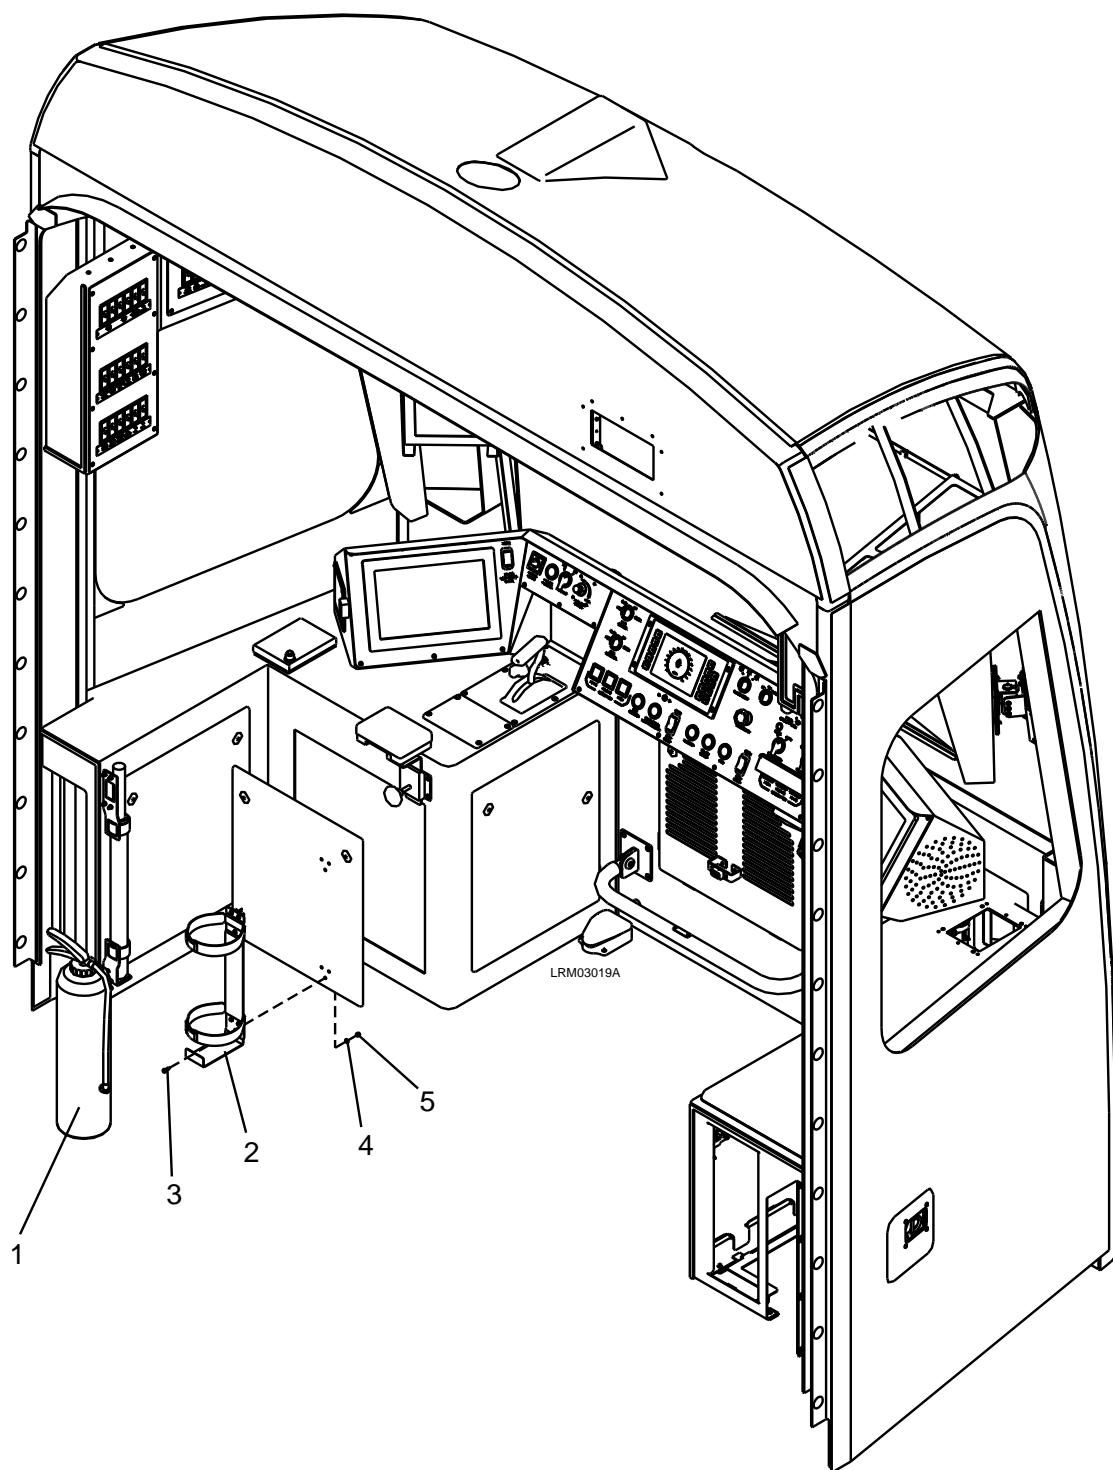

Figure 7-51: Fire Extinguisher
1. Remove the Fire Extinguisher (1) from the bracket (2). See Figure 7-51.
2. Remove the console cabinet access cover to access the bracket (2) mounting hardware.
3. Remove the five M5 ESNA nuts (5), M5 plain washers (4), and M5 x 16 screws (3).
4. Remove the bracket (2).